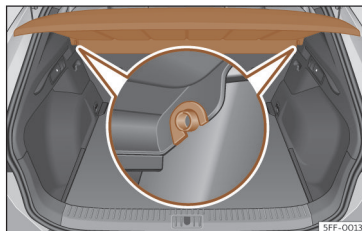

Fig. 112 In the luggage compartment: removing and fitting the shelf.
- Remove the rear shelf from the side supports >>> **Fig. 112** by pulling it upwards and then take it out.
- Insert the cover horizontally so that the “recess” fits onto the axis of the supports >>> **Fig. 112** and press down until it engages.